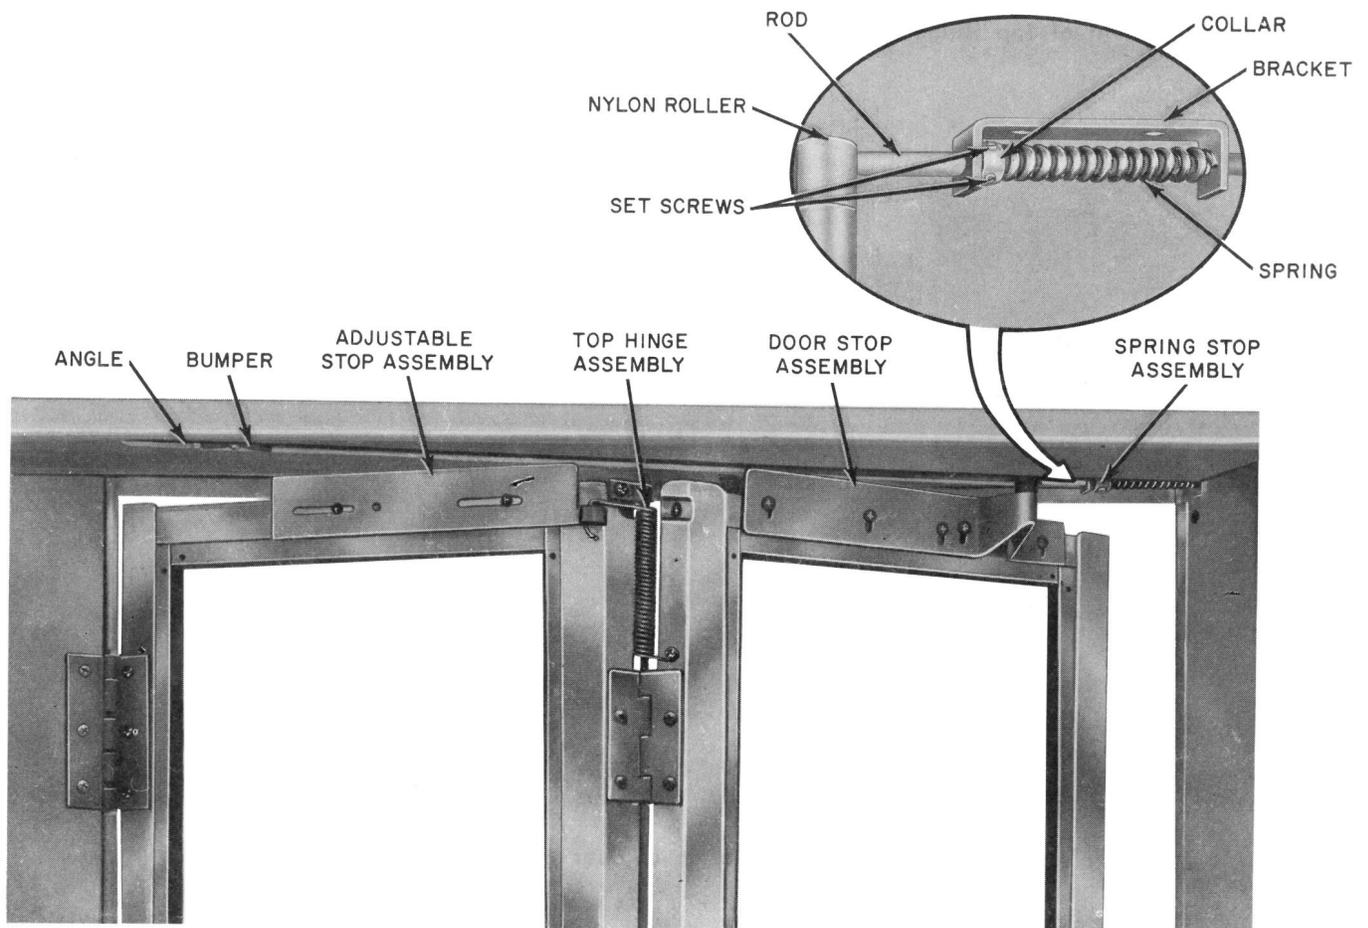

Fig. 2—KS-14611 Booth Door Adjustment
5. DOOR ADJUSTMENTS (See Fig. 2.)